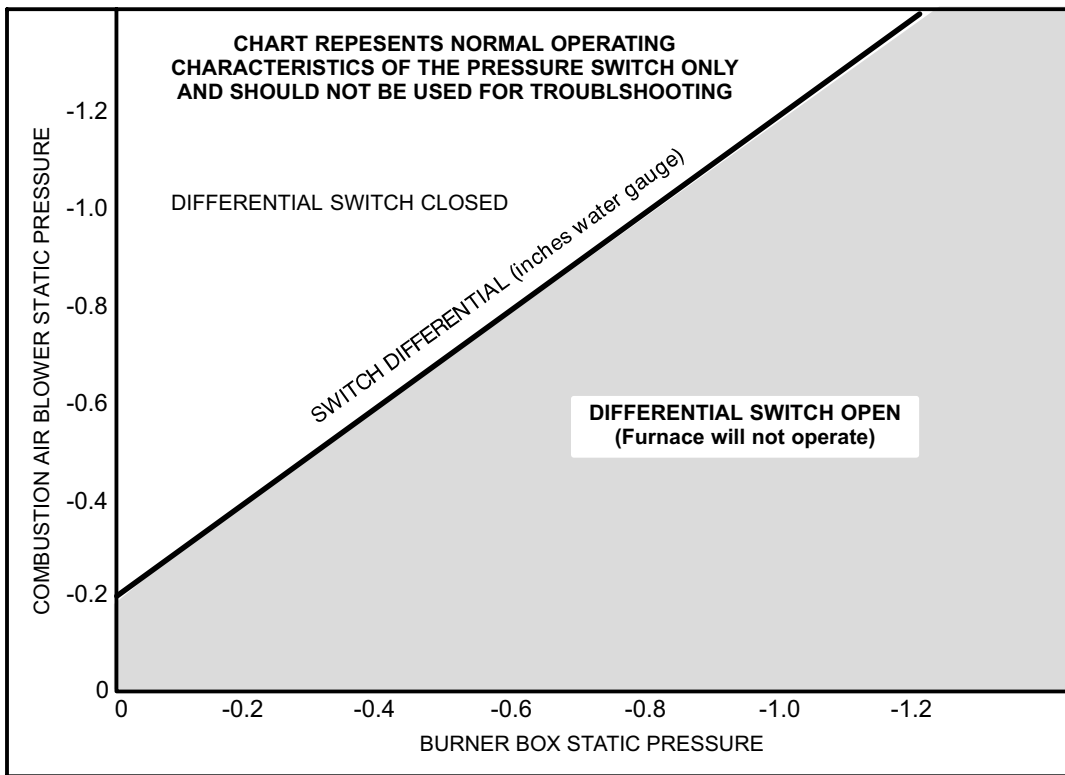

FIGURE 24
Figure 24 shows the pressure differential required to obtain unit operation. If the switch does not successfully sense the required differential, the switch cannot close and the furnace cannot operate.
Checks of pressure differential can be made as an aid in troubleshooting. It is important to remember that the switch must "see" 0.2 inches differential in order for the furnace to operate. Lack of differential usually indicates problems in the intake or exhaust piping but may indicate problems in the heat exchanger, condenser coil, header boxes, combustion blower or other components. Generally, if both readings are closer to zero (figure 24) the unit may have a restricted flue outlet or other problem. If both readings are farther from zero (figure 24) the unit may have a restricted flue inlet or other problem.
- b. Take a second reading after unit has reached steady state (approximately 5 minutes). Both readings should fall above the line shown in figure 24.
- 10- Compare readings to figure 24. Be sure to compare only like readings (compare startup reading to startup reading, then compare steady state reading to steady state reading). Subtract the absolute steady state readings from one another. This will be the pressure differential. **In order for the furnace to operate, the larger negative must always be on the combustion air blower side of the switch**